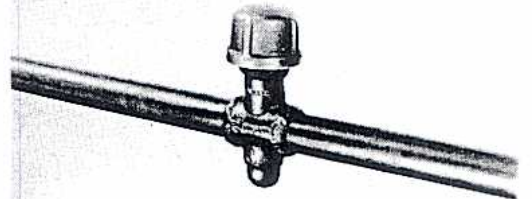

FIGURE 39
14. Apply non-hardening pipe thread "dope" to completion cap threads and screw cap tightly on fitting. FIGURE 39.